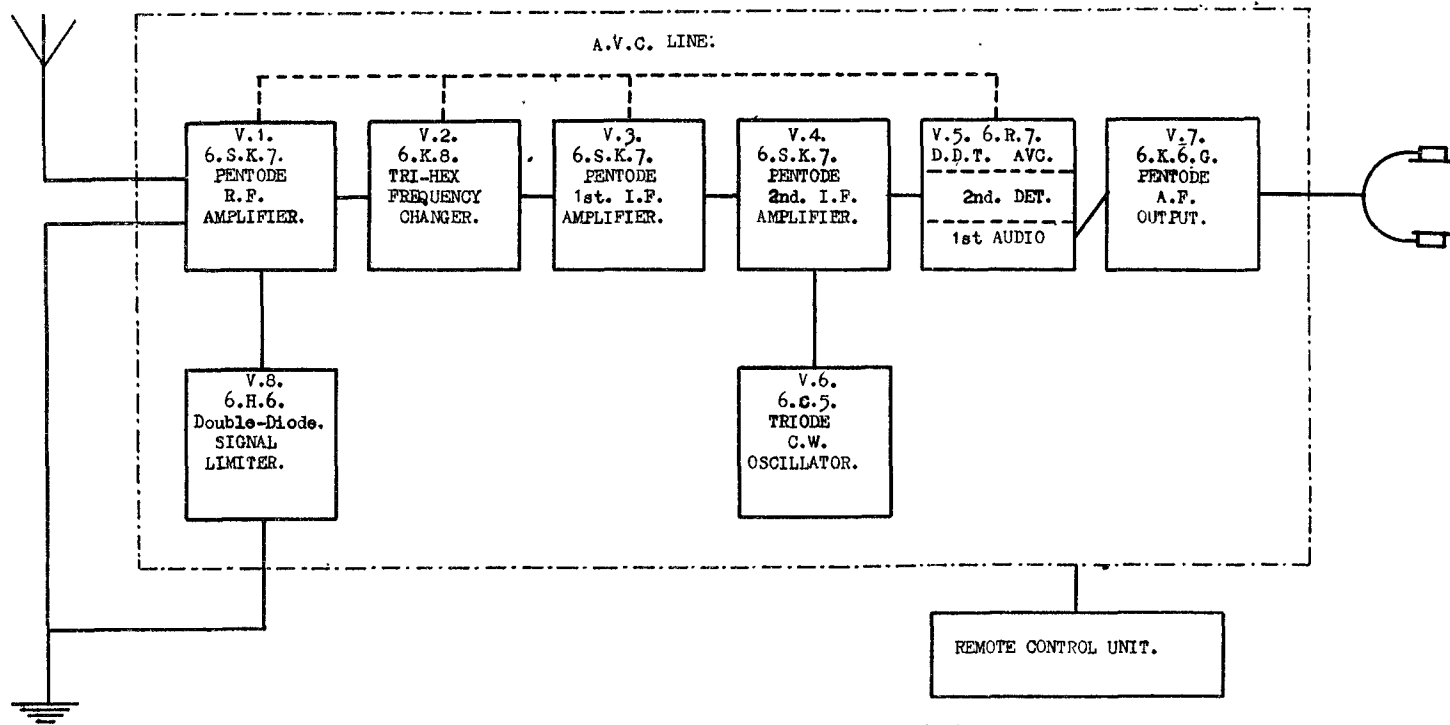

FIG. 95.—Block diagram receiver, R.A.—10DA .
5. Receiver (block diagram fig. 95).—(i) *Frequency range* :—